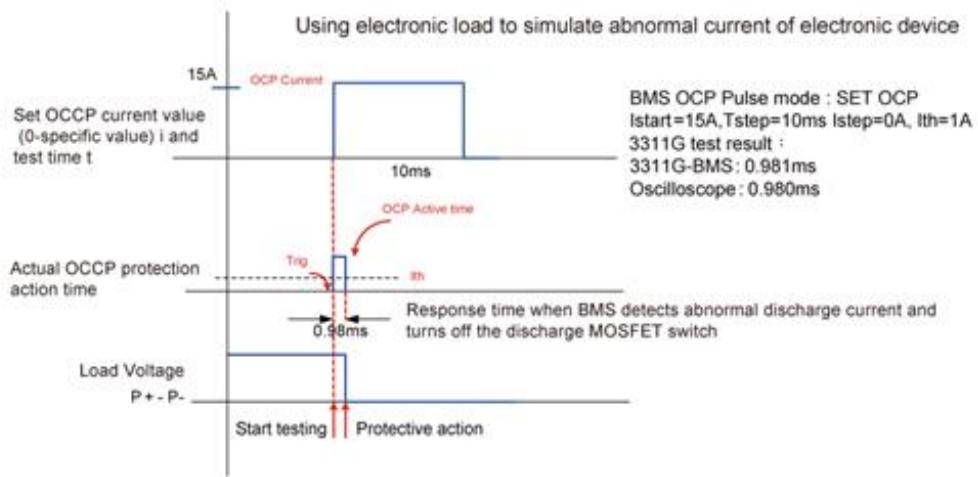
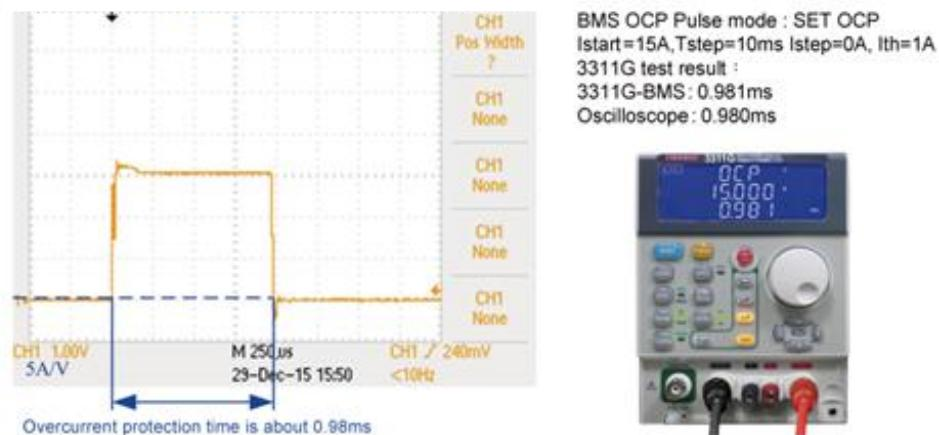

Figure 2.6 3311G BMS overcharge flow test program diagram (single pulse)
Figure 2.7 3311G BMS overcharge flow test results (single pulse)
**2.3.1** In the single-pulse overcurrent protection test mode, the electronic load will be pulled to the set current value (for example, 3311G is the current value between 0 A to 60 A or 120 A when Turbo is ON), at this time, the electronic load measures the actual maximum overcurrent protection value and the overcurrent response time value. Figure 2.6 is the 3311G single pulse current BMS overcharge current test program diagram, Figure 2.7 is the actual test result, the left picture is the oscilloscope current waveform when BMS overcharge current protection. The figure on the right shows the actual test overcharge current value and protection reaction time of the 3311G BMS.